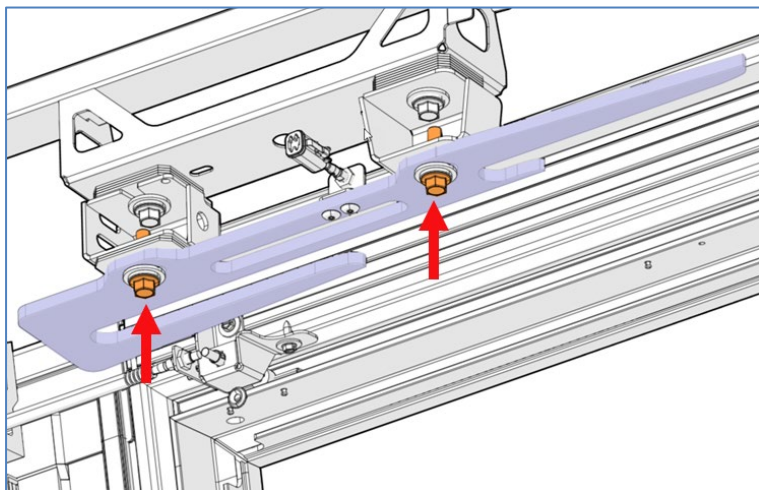

Figure 53
5. If adjustment is required, loosen the two (2) guide mounting bolts (Figure 53) and shift the guide as required. The guide is provided with slotted holes. Tighten mounting bolts to a torque of **34 lb-ft** and apply torque seal.